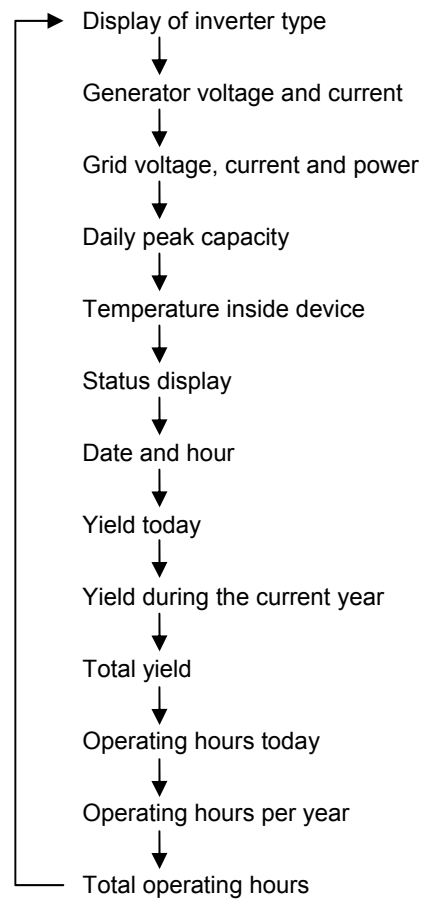

Figure 4.4: Display Mode Menu
The menus are continuous, i.e. after reaching the last entry of the menu and pressing the “Display” key (1) the first entry is displayed again (s. Figure 4.4).